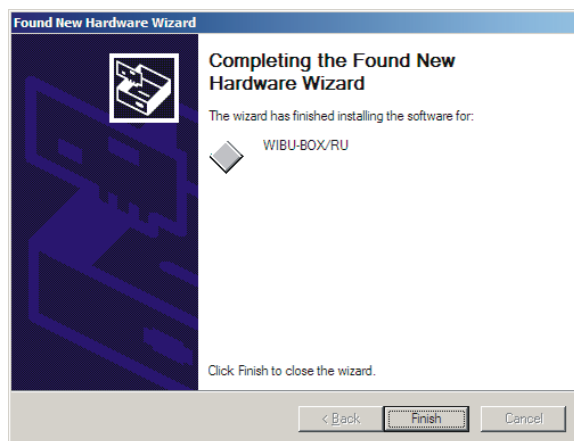

Figure 10. Found New Hardware Wizard complete
4. After installing the software, the wizard displays a screen similar to the example in Figure 10.